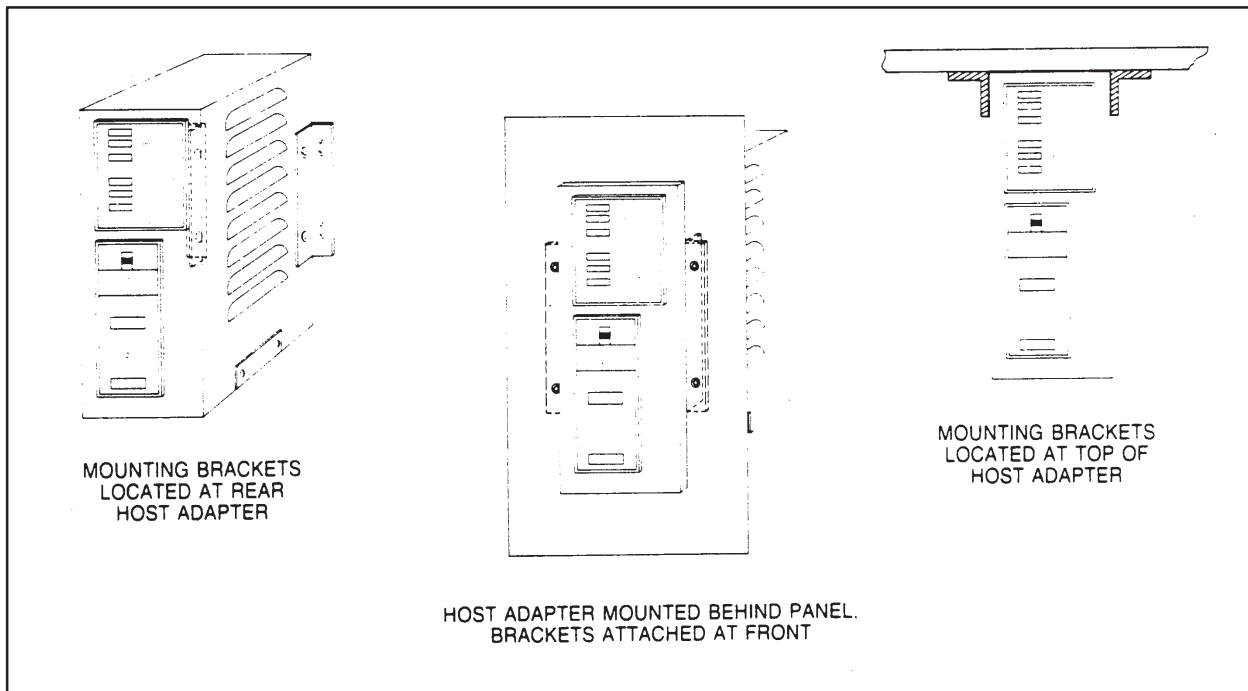

Figure 4-4 Possible Bracket Locations on Host Adapter
1. There are three possible places on the Host Adapter where the two L-shaped mounting brackets can be located. Depending on how you want the Adapter to be mounted, attach the mounting brackets to the adapter in any of these three places. (Refer to Figure 4-4 for the possible bracket mounting locations.)